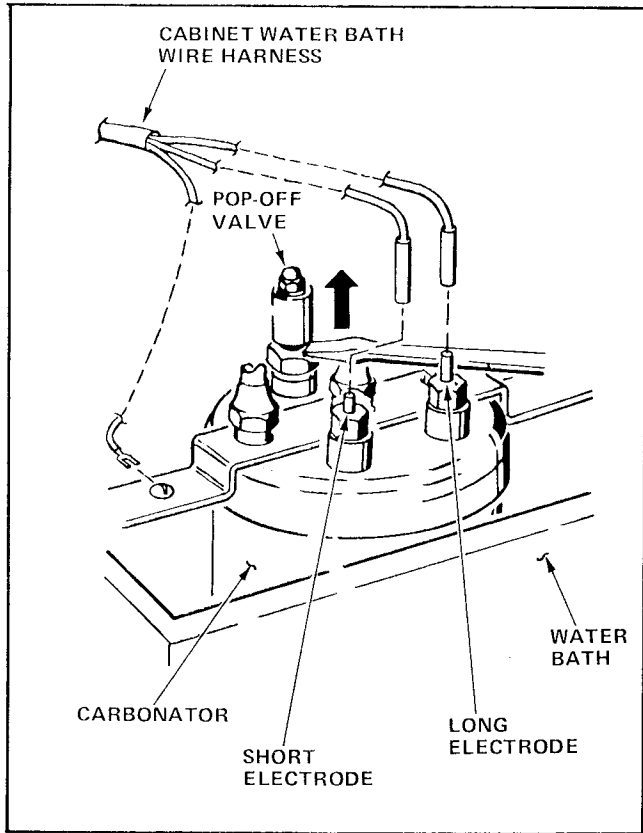

FIGURE 4
15. Tag and remove the Cabinet Water Bath Harness Wires from the Carbonator Electrodes and from the Ground Screw on the Carbonator Mounting Bracket. The Electrode at the right is the Long Electrode and the Electrode at the left is the Short Electrode. See Figure 4.
17. Discharge the Carbonator of CO₂ by lifting the body of the Pop-Off Valve with the blade of a Screwdriver. See Figure 4.
11. Attach the Cabinet Water Bath Harness Wires to the proper Carbonator Electrodes as tagged in Step 15 and to the Screw on the Carbonator Mounting Bracket. See Figure 4.
24. Remove any air trapped in the Carbonator by inserting the blade of a screwdriver momentarily under the body of the Pop-off Valve on the Carbonator. See Figure 4.